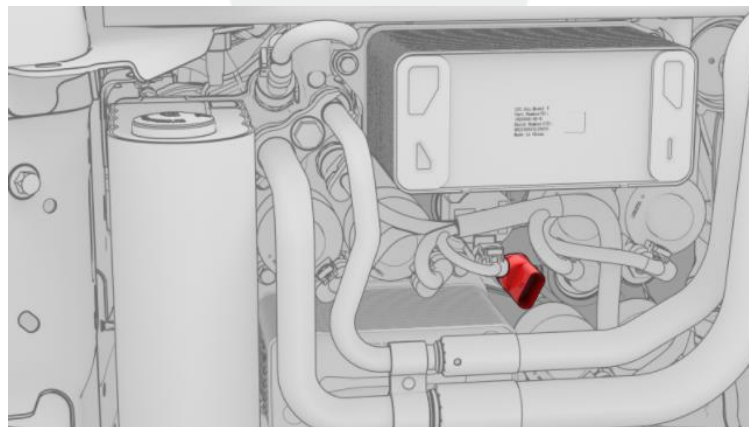

Figure 8
10. Use the HVAC socket kit special tool to remove the subcool high pressure P/T sensor from the Supermanifold (Figure 8).
13. Install the new subcool high pressure P/T sensor (black connector) into the Supermanifold (Figure 8):